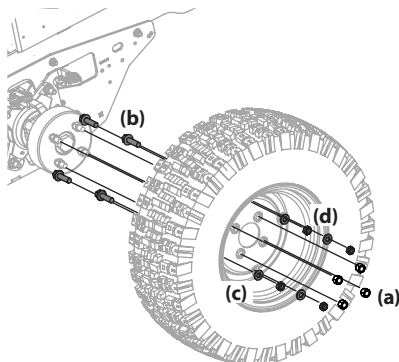

Figure 4-16
3. Remove the four lug nuts (a) to remove the inner tire. See Figure 4-16.
4. If replacing the inner tire, remove the four hex screws (b), washers (c) and jam nuts (d) that hold the mounting screws in place for the dual wheel adapter. See Figure 4-16.